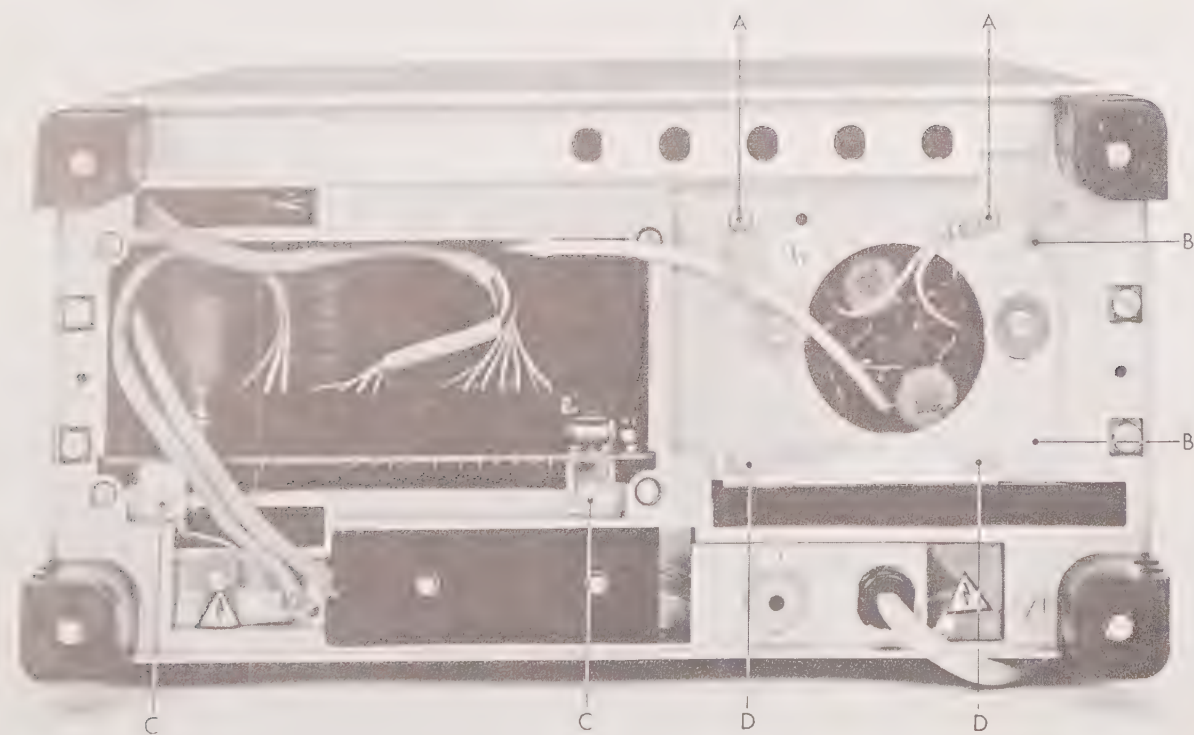

Fig. 3.4. Rear view with dismantling references
- Remove the two screws A that secure the supports to the rear panel (Fig. 3.4.)
- Remove the two screws B which secure the supports to the rear panel (Fig. 3.4.).
3.3.7. Removing the circuit board of the power supply (Fig. 3.4.)
- Remove the screws D (Fig. 3.4.) that secure the delay line to the rear panel